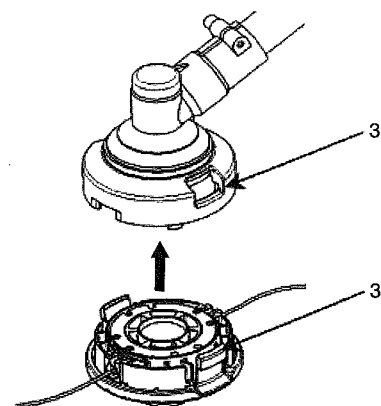

Fig. 41
(6) Place the cover over the case so that the cap locking tabs (35) on the case meet the long holes (36) on the cover. Then push the case securely until it clicks into place. (Fig. 41)